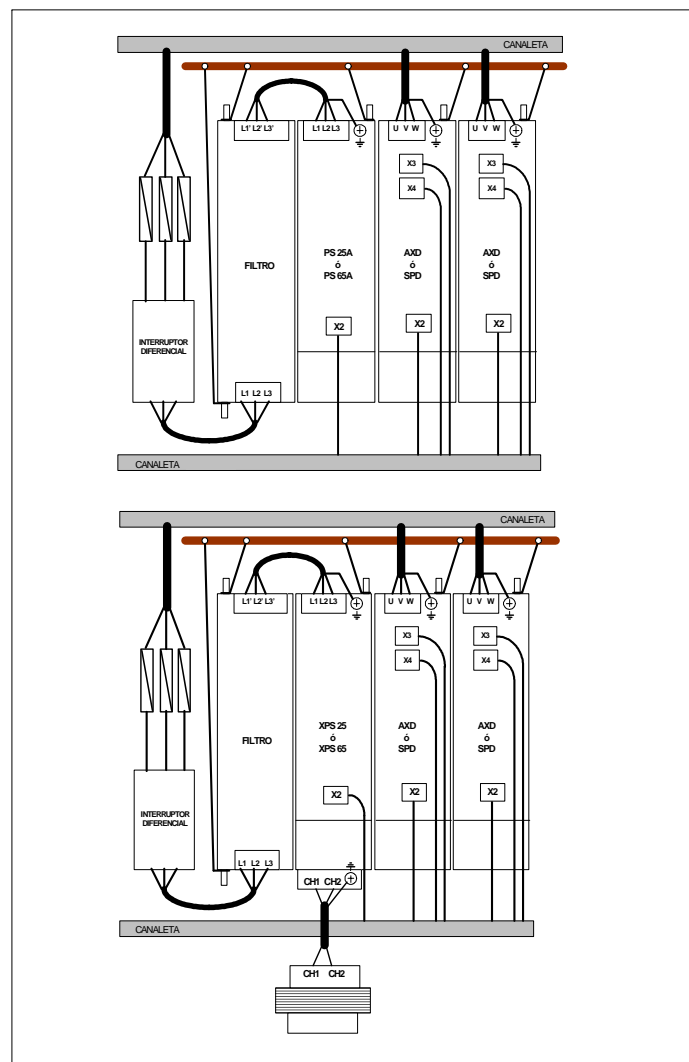

fig. 15 Cabling with power supplies: PS - xx & XPS - xx
- Connect the cable to the point of same potential or to ground as recommended in fig. 15.